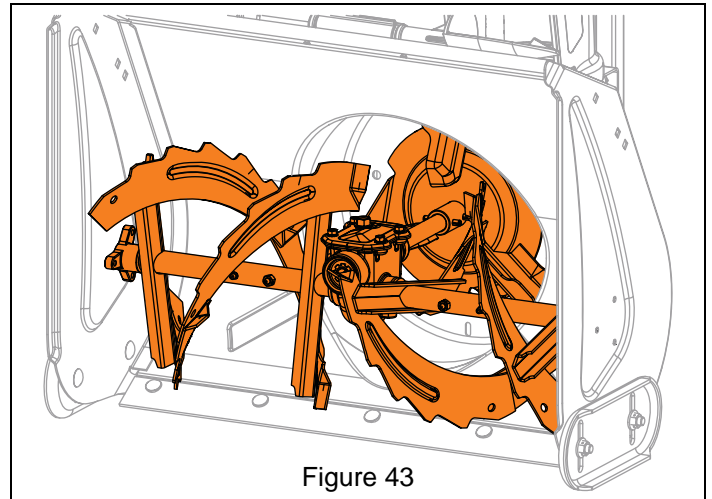

Figure 43
5. Reinstall auger assembly into housing so impeller shaft is seated in ball bearing at housing rear. See Figure 43.
4. Reinstall auger assembly into housing so impeller shaft is seated in ball bearing at housing rear. See Figure 43.